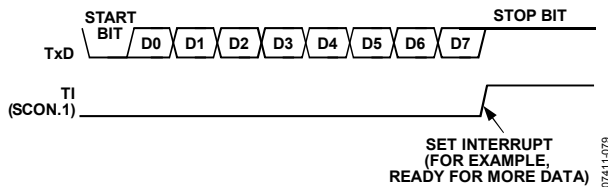

Figure 83. 8-Bit Variable Baud Rate
Transmission is initiated by a write to the serial port buffer SFR (SBUF, 0x99). Next, a stop bit (1) is loaded into the ninth bit position of the transmit shift register. The data is output bit-by-bit until the stop bit appears on TxD and the transmit interrupt flag (TI) is automatically set, as shown in Figure 83.